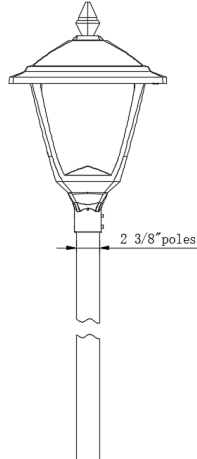

Fig.4
2. Install the fixture on the light pole and tighten 2 screws, as shown in Fig.4.